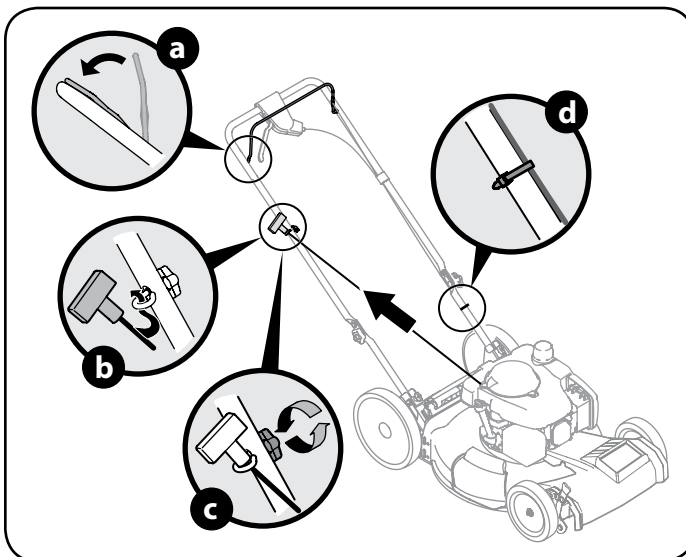

Figure 8
7. The rope guide is attached to the right side of the upper handle. Loosen the wing knob which secures the rope guide. Refer to Figure 8.
- b. Slowly pull starter rope handle from engine and slip starter rope into the rope guide. See Figure 8.
- d. Use cable ties provided to secure blade control and drive cables to lower handle as shown in Figure 8.